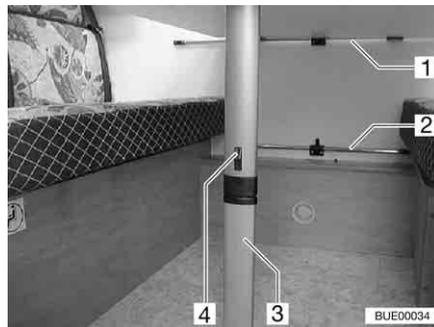

Fig. 69 Suspension table with folding leg
- Move the locking device (Fig. 69,4) toward the table-top.
- Fold the lower section of the foot (Fig. 69,3) under by 90°.
- Detach the suspension table from the upper attachment rail (Fig. 69,1).
- Attach the suspension table to the lower attachment rail (Fig. 69,2) and rest it onto the table leg hinge.